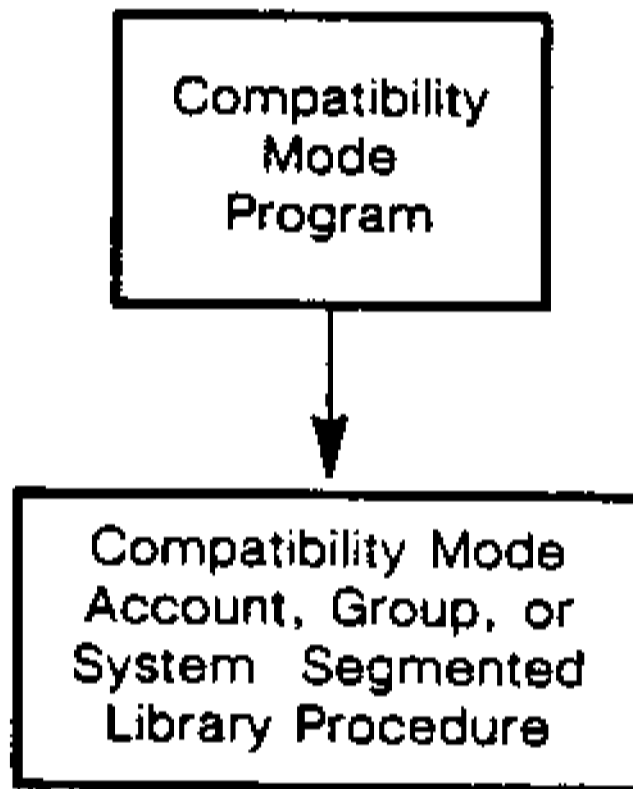

Figure 1-4. Compatibility Mode Execution Model
1. You can run CM programs (directly after being restored from your MPE V/E STORE tape), and, from that code, call procedures that are located in a CM SL. In this instance, all execution is within Compatibility Mode, and no apparent mode switching on the part of your program is involved. Figure 1-4 illustrates this model.